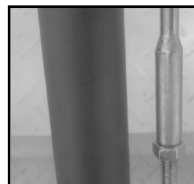

Fig.4
3. Connect the locking rod (4) with the thread on upper handle tube and tighten the nut. (Fig. 4)